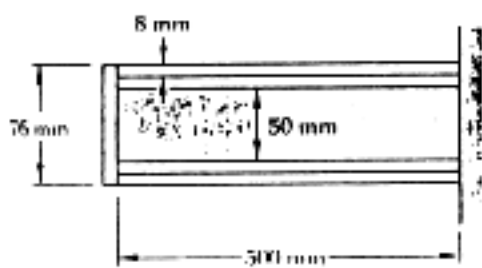

Fig. 4
4. A steel shaft and an aluminum tube (Fig. 4) are connected to a fixed support and to a rigid disk as shown in the cross section. Knowing that the initial stresses are zero, determine the maximum torque T_e which may be applied to the disk if the allowable stresses are 120 MPa in the steel shaft and 70 MPa in the aluminum tube. Use $G = 80$ GPa for the steel and $G = 27$ GPa for aluminum. (G : shear modulus of elasticity) (20%)